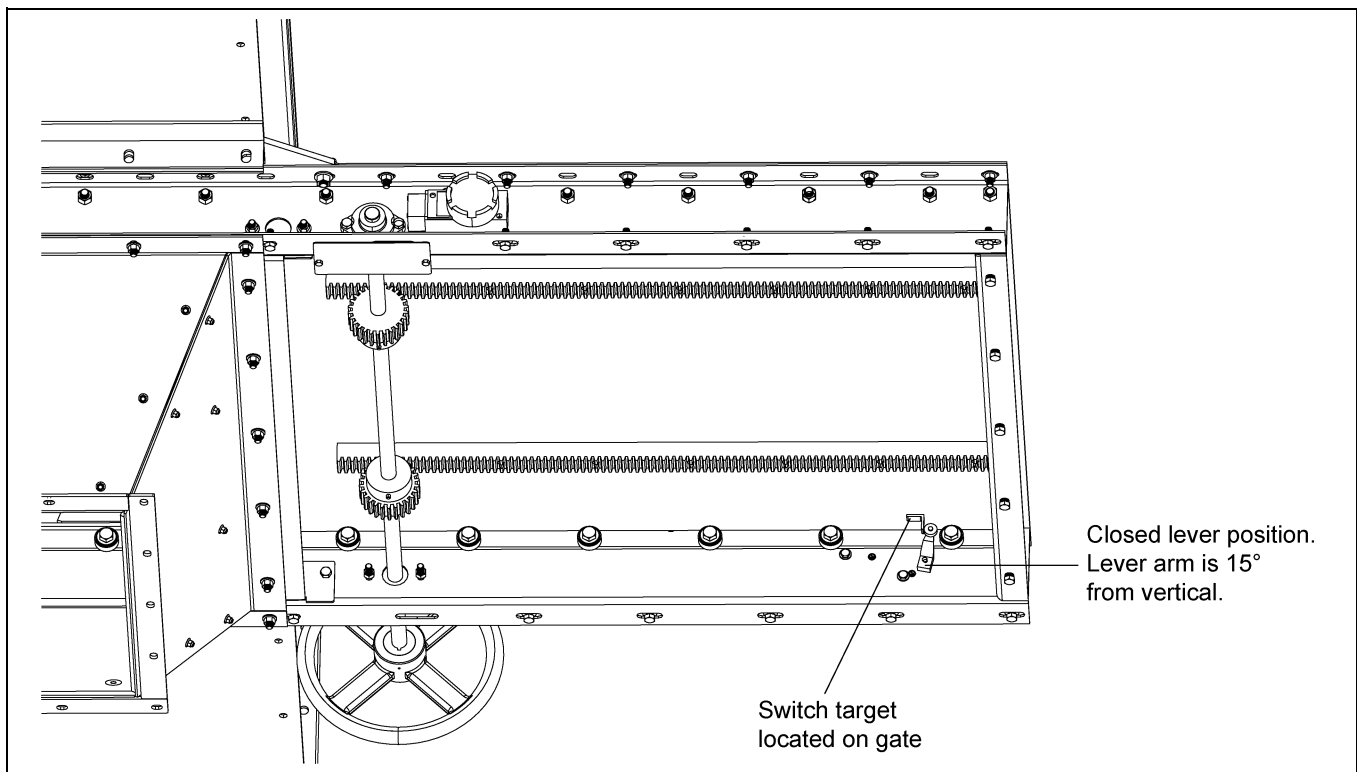
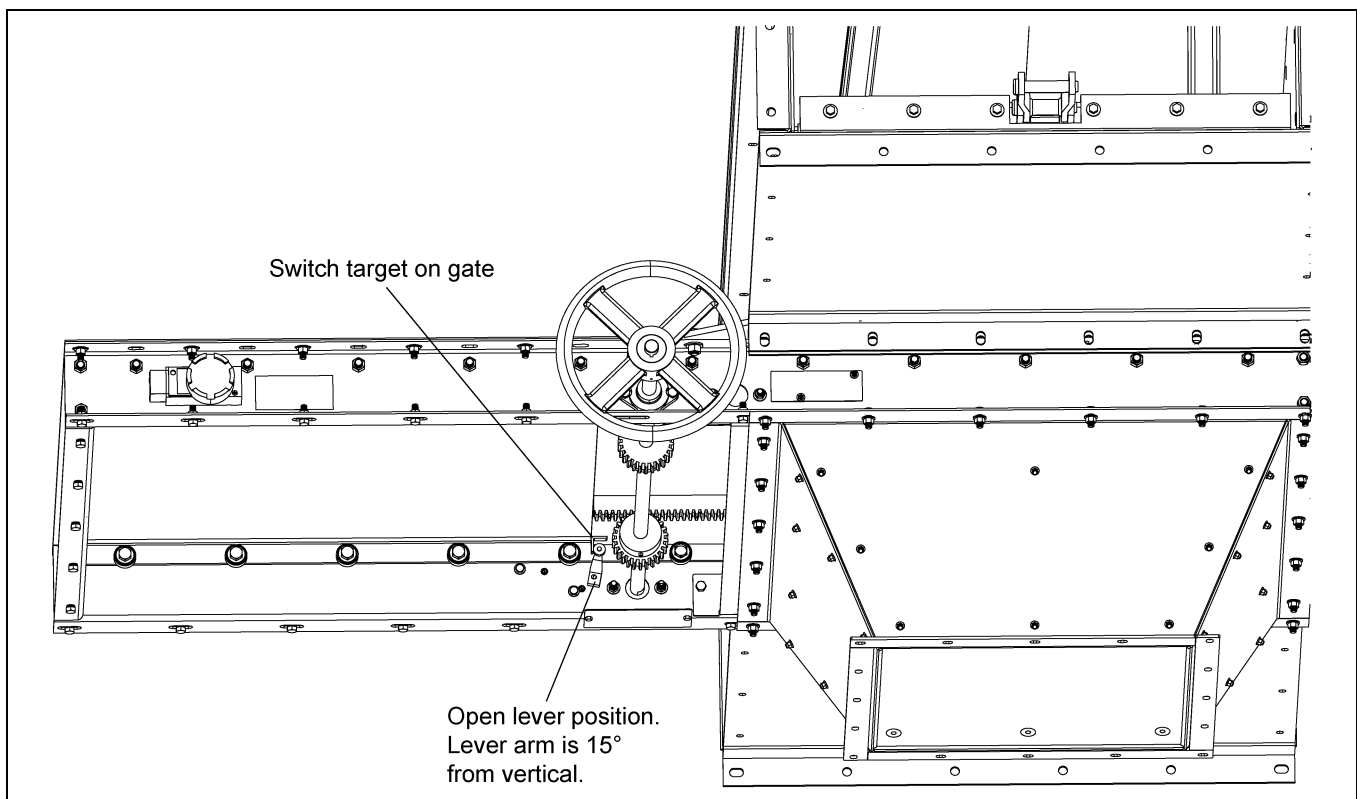

Figure 3G
Figure 3H
3. Install switch levers vertically. When the switch target on gate pushes a switch 15° in either direction, the motor will stop. (See Figure 3G and Figure 3H.)